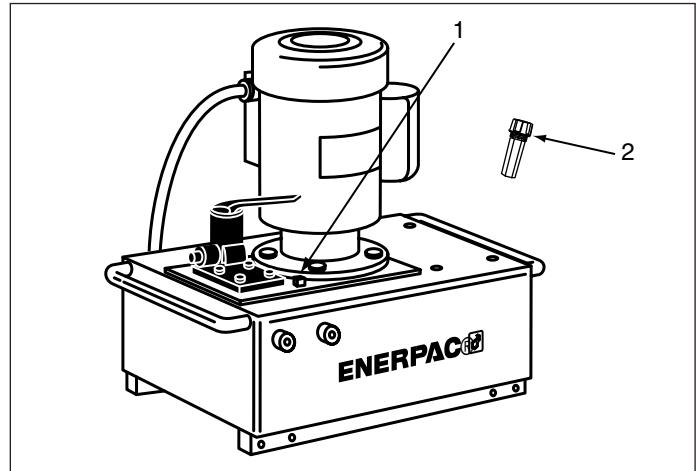

Figure 8
- Install the oil level. (See Figure 8.)